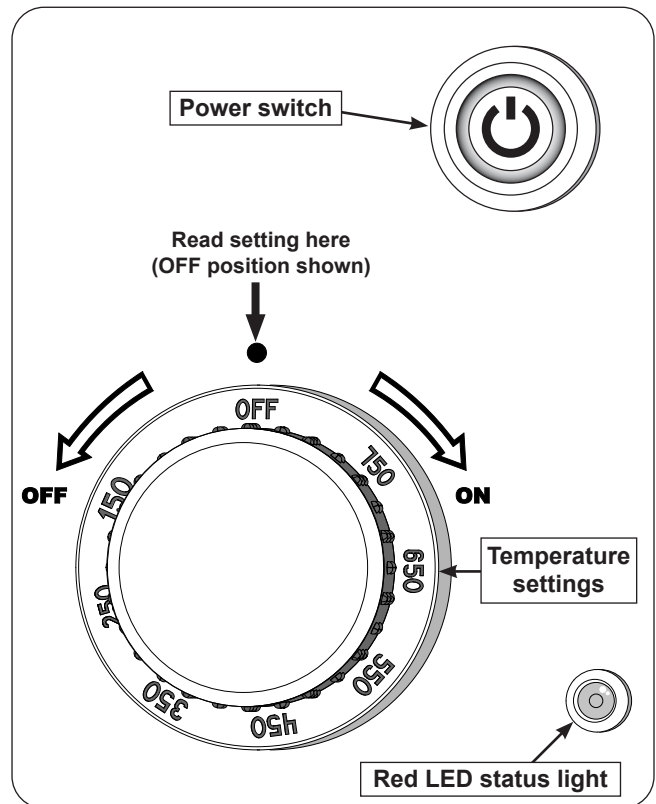

Fig. 35-1 Ignition components
3. Turn on the gas at its source. Then press the power switch (see Fig. 35-1).
For your convenience and safety, when the ignition system is lighting the unit AND when the burners are lit, the red LED status light will illuminate (see Fig. 35-1).